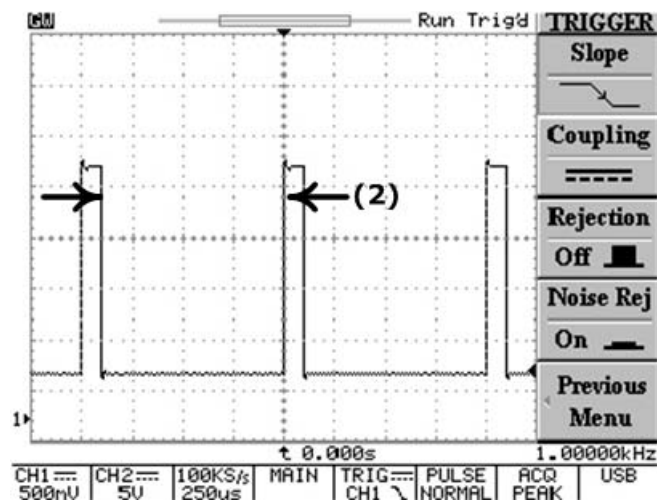

Figure 5-17: Pulse width trigger with negative polarity selected
(2): When negative polarity selected, the trigger will take place on the low to high transition of the pulse if the compare condition is match. See figure 5-17